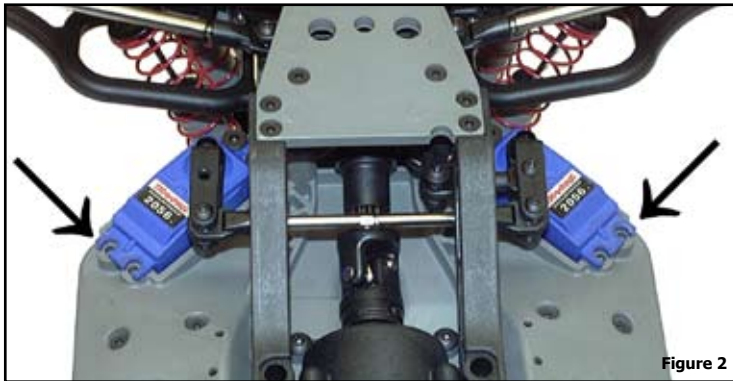

Figure 2
2. Flip the truck over and remove the rear-most steering servo screws on both servos as shown in *Figure 2*.